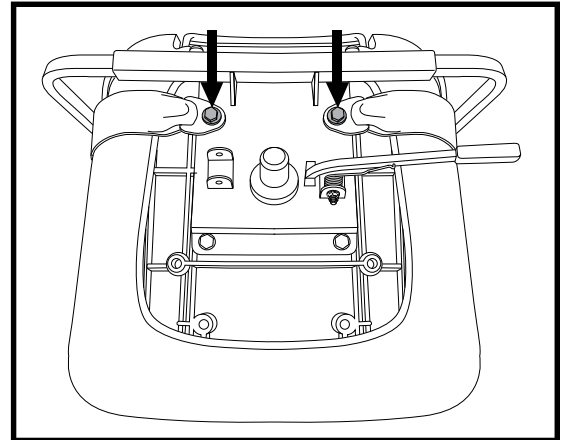

Figure 29. Positioning Belt Bolts
2. Place the seat upside down so that you can see the bottom of the seat base. **See figure 29.**